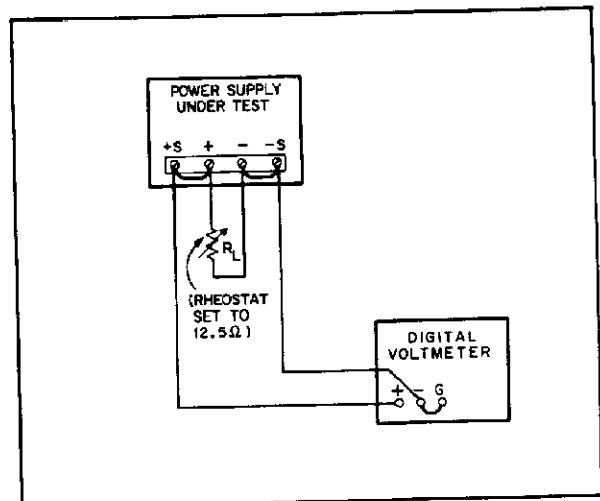

Figure 5-1. Constant-Voltage Test Setup
- Connect load resistance and digital voltmeter across rear terminals as shown in Figure 5-1. Set R_L to maximum resistance, initially.
- a. Connect test setup shown in Figure 5-1.
- a. Connect load resistance and digital voltmeter as illustrated in Figure 5-1.
- a. Check load resistance and digital voltmeter as illustrated in Figure 5-1.